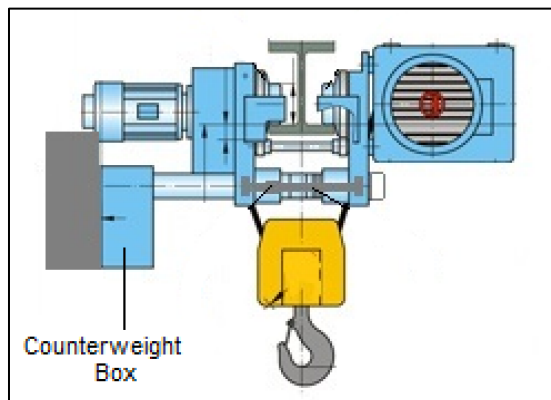

Figure 4.6.2
- After installation of the low headroom hoist trolley, the unit should be balance. Counterweight box is specially designed for this purpose (Figure 4.6.2). It is recommended, after putting the balancing material (metal scrap) in the box, to cover it with concrete with thickness about 1 inch. The weight of the counterweight box (concrete layer included) is according to Table 4.6.1.